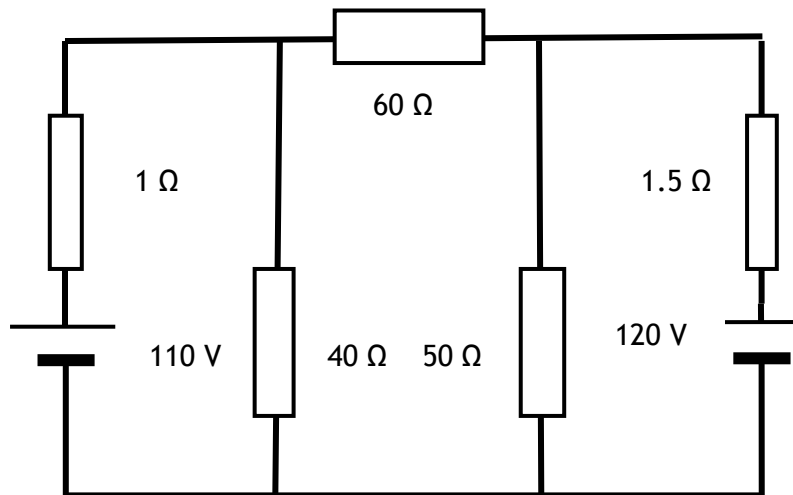

Fig Q1
1. For the network shown in Fig Q1 calculate EACH of the following:
- (a) the current drawn from each battery; (8)
- (b) the potential difference across the $40\ \Omega$ resistor and the $50\ \Omega$ resistor; (4)
- (c) the power dissipated in the $60\ \Omega$ resistor. (4)